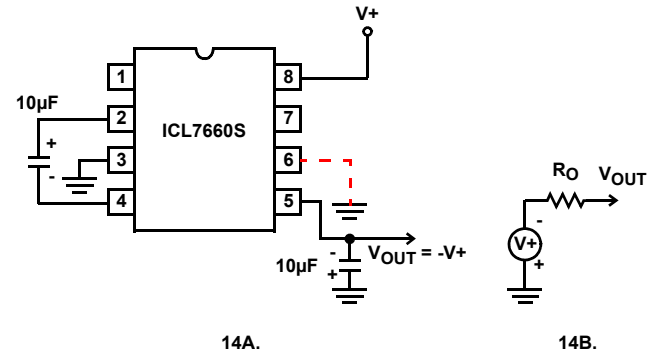
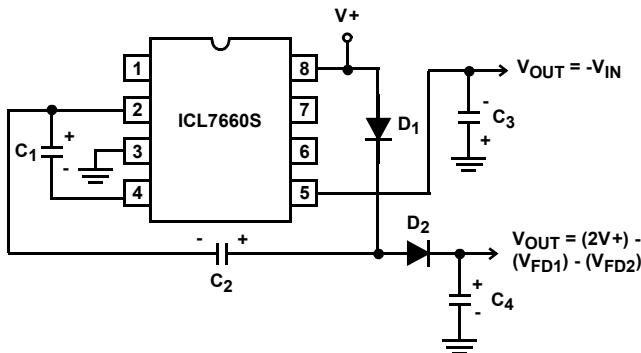
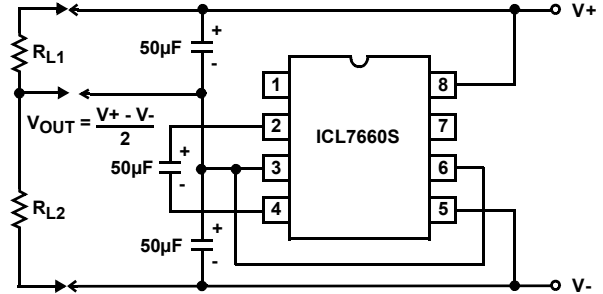

FIGURE 14. SIMPLE NEGATIVE CONVERTER AND ITS OUTPUT EQUIVALENT
FIGURE 18. COMBINED NEGATIVE VOLTAGE CONVERTER AND POSITIVE DOUBLER
FIGURE 19. SPLITTING A SUPPLY IN HALF
The majority of applications will undoubtedly utilize the ICL7660S for generation of negative supply voltages. Figure 14 shows typical connections to provide a negative supply where a positive supply of +1.5V to +12V is available. Keep in mind that pin 6 (LV) is tied to the supply negative (GND) for supply voltage below 3.5V.
The output characteristics of the circuit in Figure 14 can be approximated by an ideal voltage source in series with a resistance as shown in Figure 14B. The voltage source has a value of -(V₊). The output impedance (R_O) is a function of the ON resistance of the internal MOS switches (shown in Figure 13), the switching frequency, the value of C₁ and C₂, and the ESR (equivalent series resistance) of C₁ and C₂. A good first order approximation for R_O is shown in Equation 2:
Figure 18 combines the functions shown in Figure 14 and Figure 17 to provide negative voltage conversion and positive voltage doubling simultaneously. This approach would be suitable, for example, for generating +9V and -5V from an existing +5V supply. In this instance, capacitors C_1 and C_3 perform the pump and reservoir functions, respectively, for negative voltage generation, while capacitors C_2 and C_4 are pump and reservoir, respectively, for the doubled positive voltage. There is a penalty in this configuration which combines both functions, however, in that the source impedances of the generated supplies will be somewhat higher, due to the finite impedance of the common charge pump driver at pin 2 of the device.
The bidirectional characteristics can also be used to split a high supply in half, as shown in Figure 19. The combined load will be evenly shared between the two sides, and a high value resistor to the LV pin ensures start-up. Because the switches share the load in parallel, the output impedance is much lower than in the standard circuits, and higher currents can be drawn from the device. By using this circuit, and then the circuit of Figure 14, +15V can be converted, via +7.5 and -7.5, to a nominal -15V, although with rather high series output resistance ($\sim 250\Omega$).